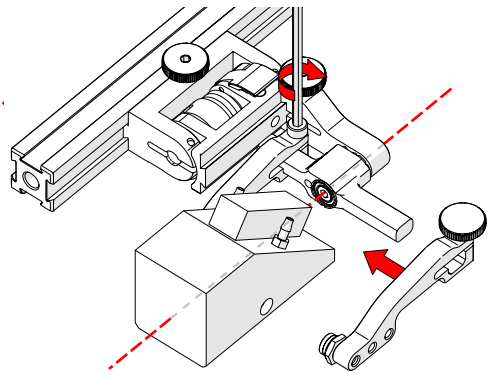

Fig. 107 - Place wedge
7. Position the wedge on the inner probe holder arm (Fig. 107).